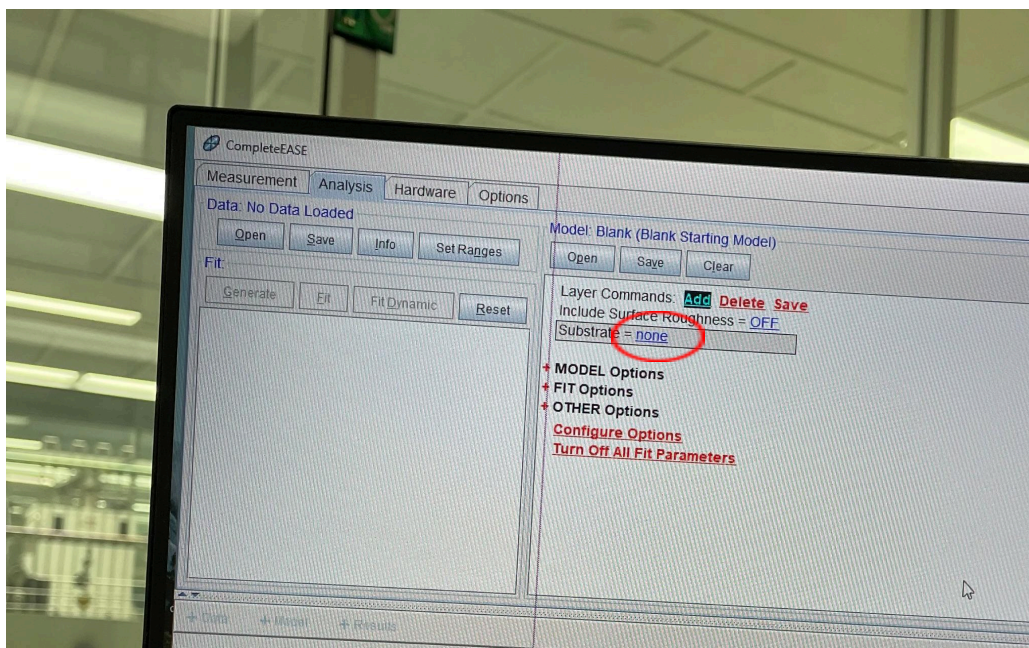

Figure 6: Creating a Model on the Analysis Tab
- 8.2.2. Click the word “none” in the Substrate box to select your substrate material. **Figure 6.**